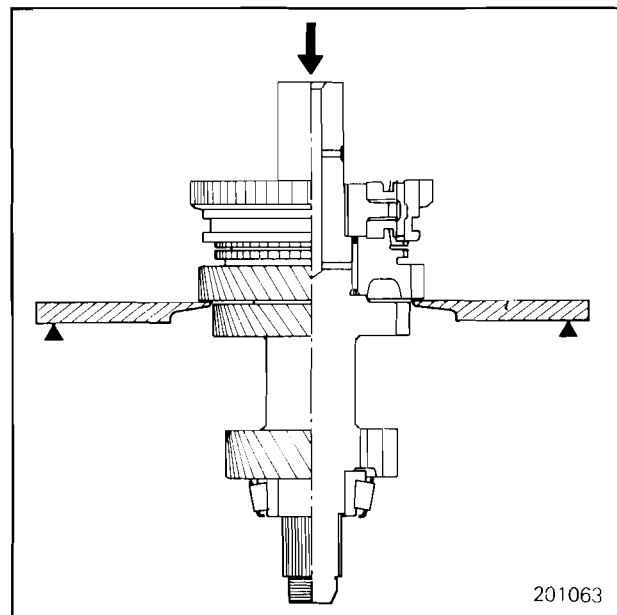

Fig. 43—1st - 2nd synchronizer removal
- (3) Remove the synchronizer ring.
- (4) Using suitable press plates, remove the 1st - 2nd speed synchronizer hub and sleeve, refer Fig. 43.